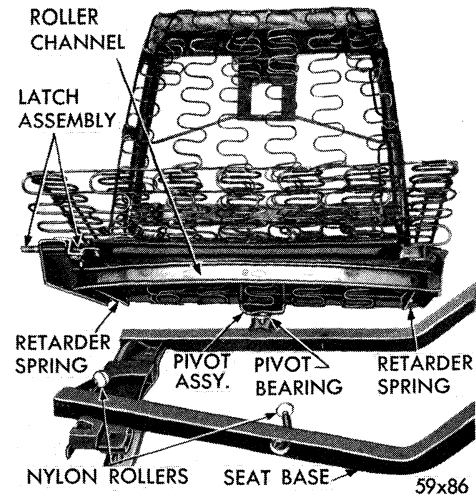

Fig. 122 — Removing Swivel Seat Assembly
**SEAT ASSEMBLY (FIG. 122)****a. Removal**
**NYLON ROLLERS (FIG. 122)**
**PIVOT NYLON BEARING REPLACEMENT (FIG. 122)**
Remove the pivot seat assembly and invert seat. Remove the screws, Figure 122, holding the retarder springs in place. The screws are located on the bottom of the seat frame and under the seat back hinges. Remove the retarder springs.